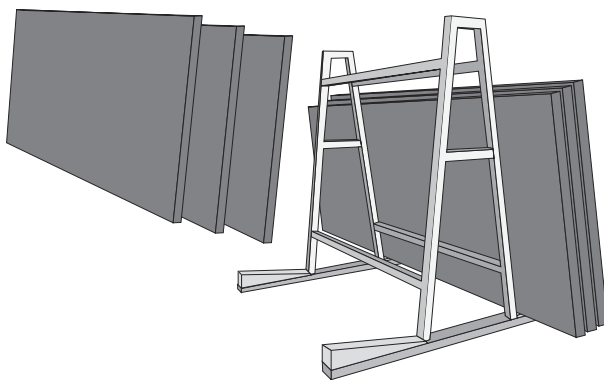

Fig. 1a
- Always store the slabs on an "A Frame" with a 15° angle (See Fig. 1a) – ensuring each slab is placed hard against the adjacent slab, to ensure there is no gapping between the slabs – or store in a secure vertical slab racking system specifically designed for stone handling (See Fig. 1b).